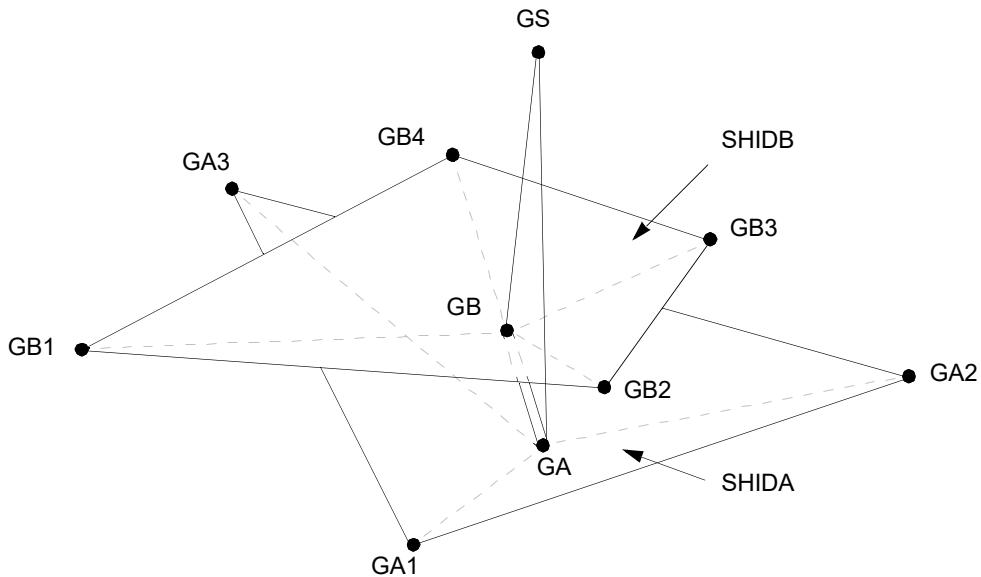

Figure 9-84 Patch to Patch Connection Defined with Format ELEMID or GRIDID
7. The format "ELEMID" defines a connection of two shell element patches A and B with shell element identification numbers SHIDA and SHIDB, see Figure 9-84. The connectivity is restricted to a single element per patch regardless of the location of GA, GB and regardless of the size of the diameter of the connector. In addition, the format "ELEMID" can define a point to patch connection if SHIDB is left blank, see Figure 9-85. Then grid GS is connected to shell SHIDA.
8. The format “GRIDID” defines a connection of two surface patches A and B with a sequence of grid points GA_i and GB_i , see Figure 9-84. In addition, the format “GRIDID” can define a point to patch connection if all GB_i fields are left blank, see Figure 9-85. Then grid GS is connected to grids GA_i . The grids GA_i and GB_i do not have to belong to shell elements.